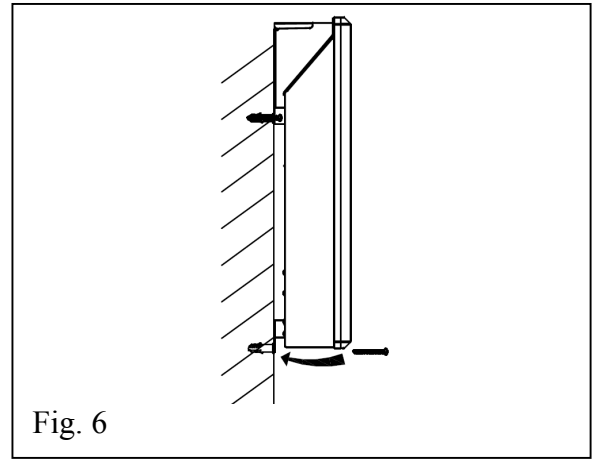

Fig. 6
4. Hang the heater on the wall and put the expansion screws in the bottom two holes as picture (Fig. 6).